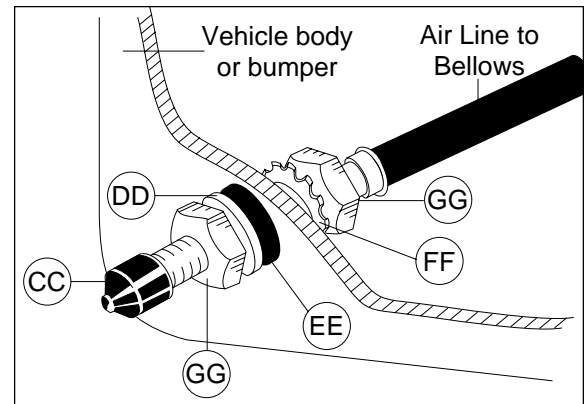

Figure 10
1. In a similar fashion to the upper bracket alignment, carefully move the bottom bracket inward and outward so as to align it to the bellows and upper bracket (Figure 10).
3. Cut the air line assembly (AA) in two equal lengths.
4. Place a  $\frac{5}{16}$ " nut (GG) and a star washer (FF) on the air valve. Leave enough of the inflation valve in front of the nut to extend through the hole and to have room for the rubber washer (EE), flat washer (DD), and  $\frac{5}{16}$ " nut (GG) and cap (CC). There should be enough valve exposed after installation - approximately  $\frac{1}{2}$ " - to easily apply a pressure gauge or an air chuck (Figure 10).
5. Push the inflation valve through the hole and use the rubber washer (EE), flat washer (DD), and another  $\frac{5}{16}$ " nut (GG) to secure it in place. Tighten the nuts to secure the assembly in place (Figure 10).
6. Route the air line along the frame to the air fitting on the air spring. Keep at least 6" of clearance between the air line and heat sources, such as the exhaust pipes, muffler, or catalytic converter. Avoid sharp bends and edges. Use the plastic tie straps (BB) to secure the air line to fixed, non-moving points along the chassis. Be sure that the tie straps are tight, but do not pinch the air line. Leave at least 2" of slack to allow for any movement that might pull on the air line.